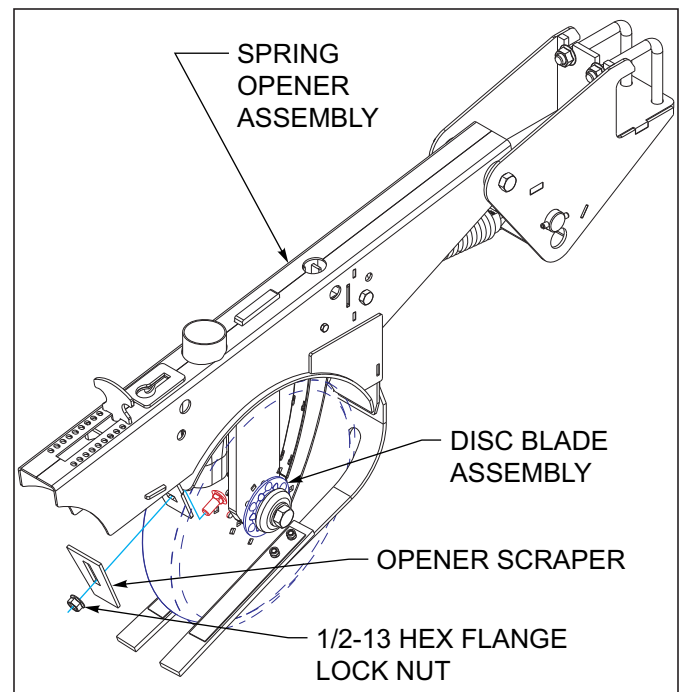

Figure 4-40: Opener Scraper Adjustment
2. To adjust the scraper blade, loosen the 1/2-13 hex flange lock nut holding the blade, and slide the blade up or down to achieve the desired clearance *See Figure 4-40* Re tighten the 1/2-13 hex flange lock nut. Carefully rotate the opener blades to make sure the blades will turn freely and not drag on the scraper.